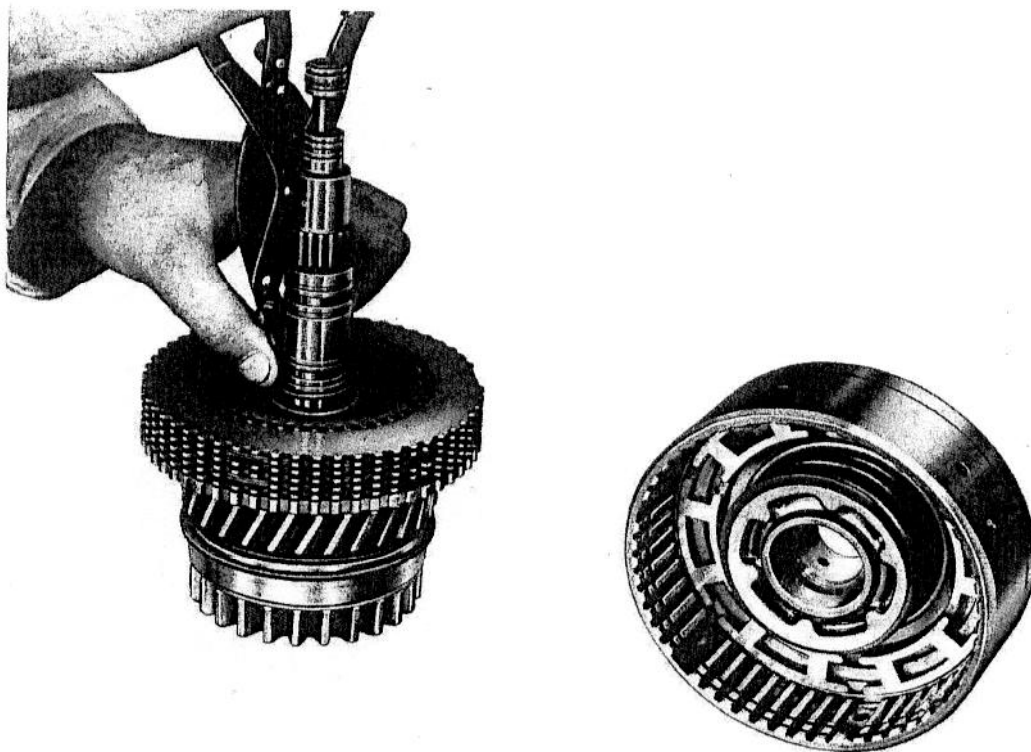

FIG. 25
12. (Fig. 25) Fit the small circlip to retain the reverse clutch hub.